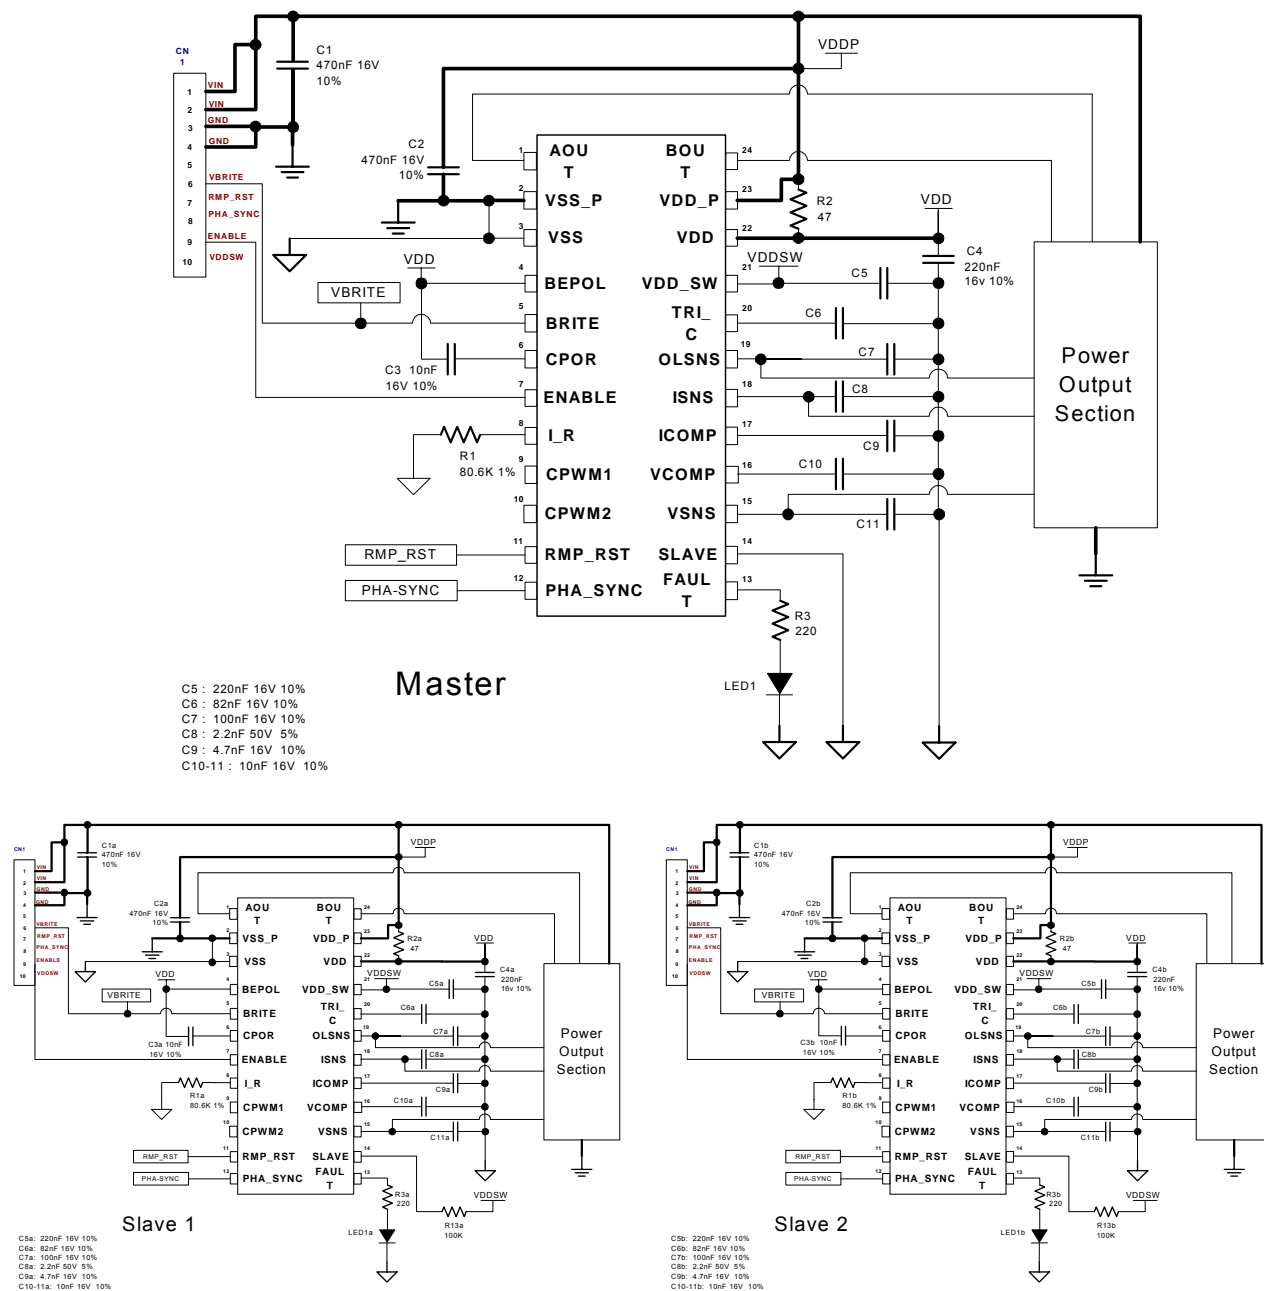

Figure 2- Schematic modules connected as a Master and Slaves
Simply connecting pin 14 to the ground for a master and to the VDD for a slave will do master and slave configuration. As shown in figure 2, module (A) configured as master and modules (B) and (C) configured as slaves.